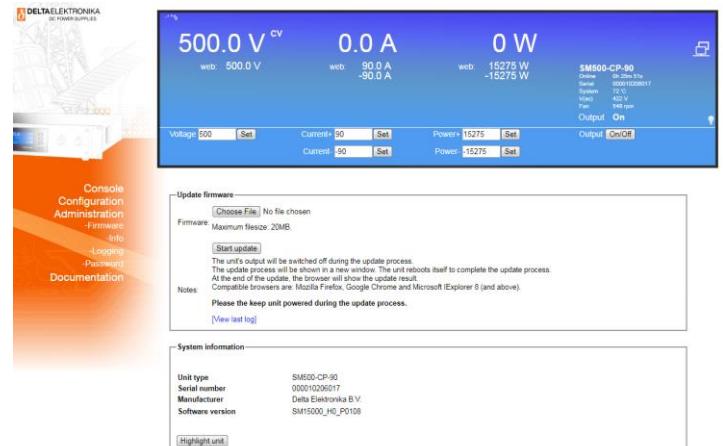

Figure 6.11: Via the web interface the downloaded firmware package can be uploaded to the unit
- Regularly check for firmware updates at the [Delta Elektronik website](https://www.deltatektronika.com). If there is a new update available, the unit can be updated via the web interface, see Figure 6.11.